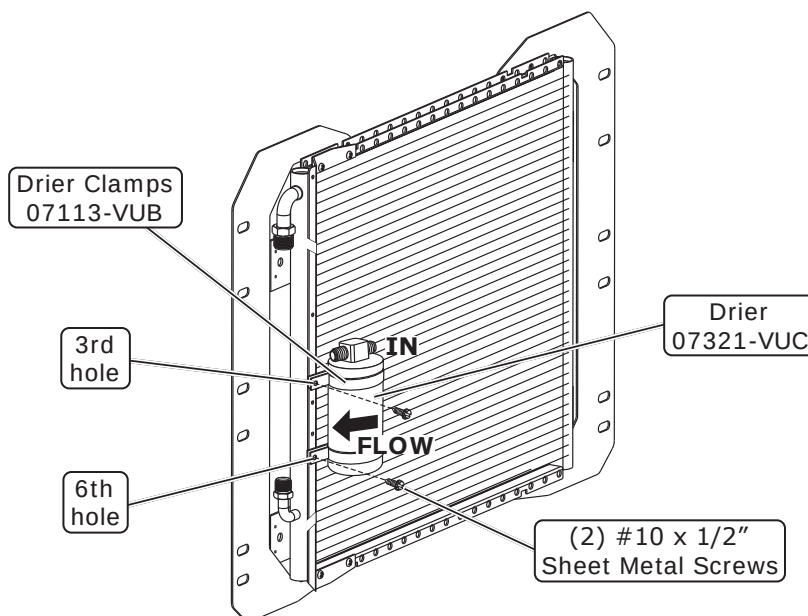

Figure 1
2. Using #10 x 1/2" sheet metal screws, install the drier onto the bracket in the 3rd and 6th holes from the top as shown in Figure 1, below. **NOTE: Refrigerant flow through drier is IN from condenser, OUT to evaporator.**